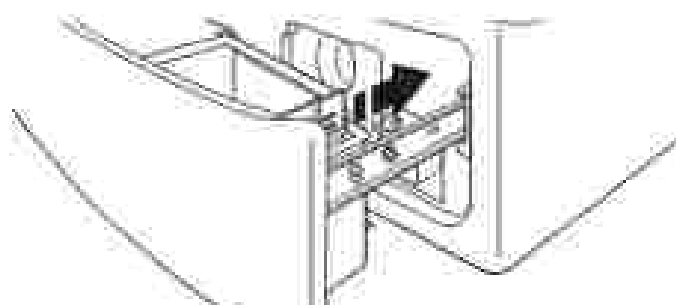

Figure 6
6. Replace and close the dispenser drawer. Make sure to insert both rails simultaneously when replacing the drawer. You will hear a clicking sound that indicates the rails have engaged (see Figure 6). To ensure proper placement of the drawer, pull out fully. The drawer should be fully engaged and the rails locked in place. Make sure the drain hose is secured in the hose clip and tucked underneath the outlet.